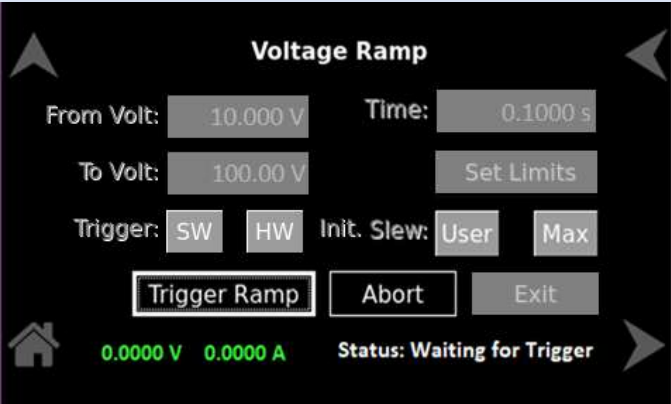

Figure 10-69. Status – Waiting for Trigger
c) **Waiting for Trigger:** When the system is waiting for the trigger, refer to Figure 10-69.